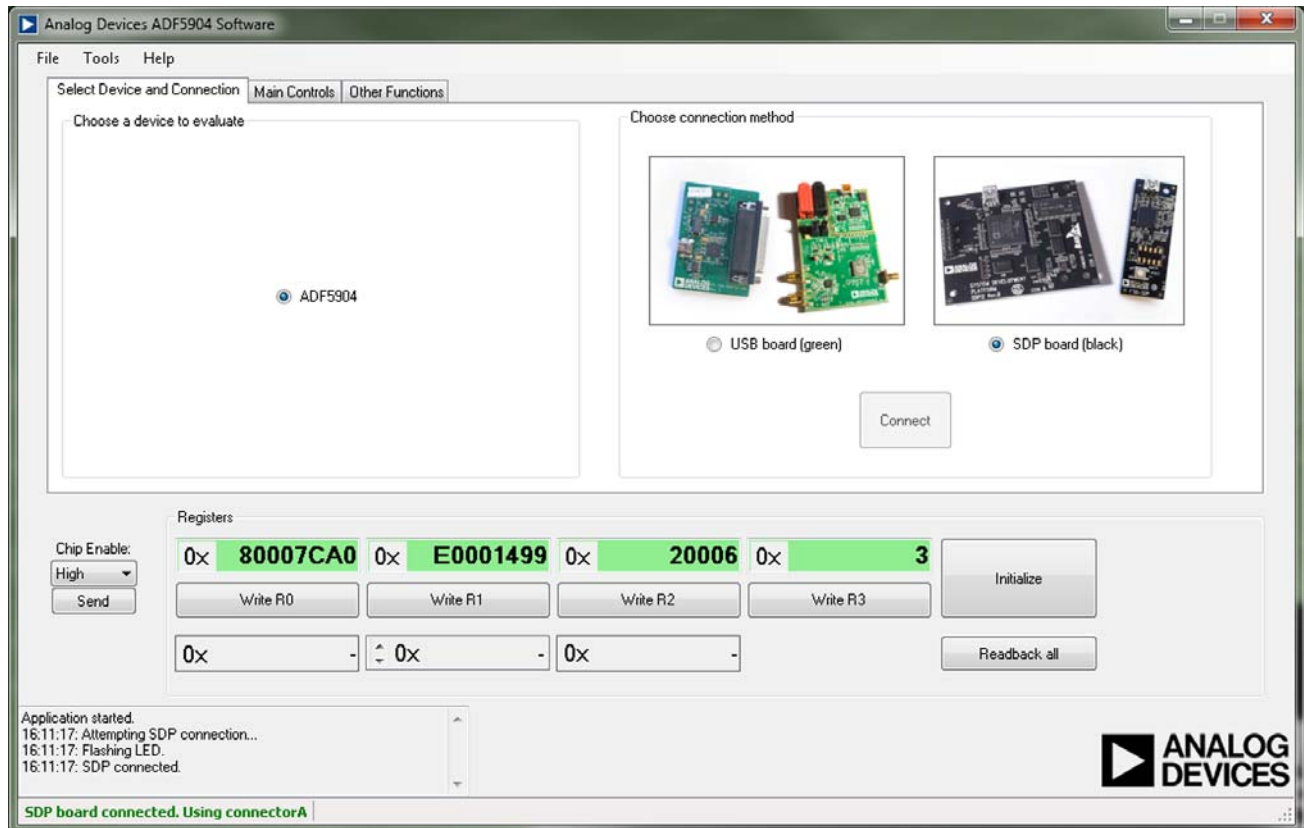

Figure 2. Software Front Panel Display—Select Device and Connection
6. Select the ADF5904 device and the USB board in the **Select Device and Connection** tab of the software front panel window (see Figure 2).
7. Check that the message **SDP board connected** appears at the bottom left of the software window (see Figure 2).
Confirm that **Analog Devices Eval Board connected** is displayed at the bottom left of the window (see Figure 2). Otherwise, the software has no connection to the evaluation board.